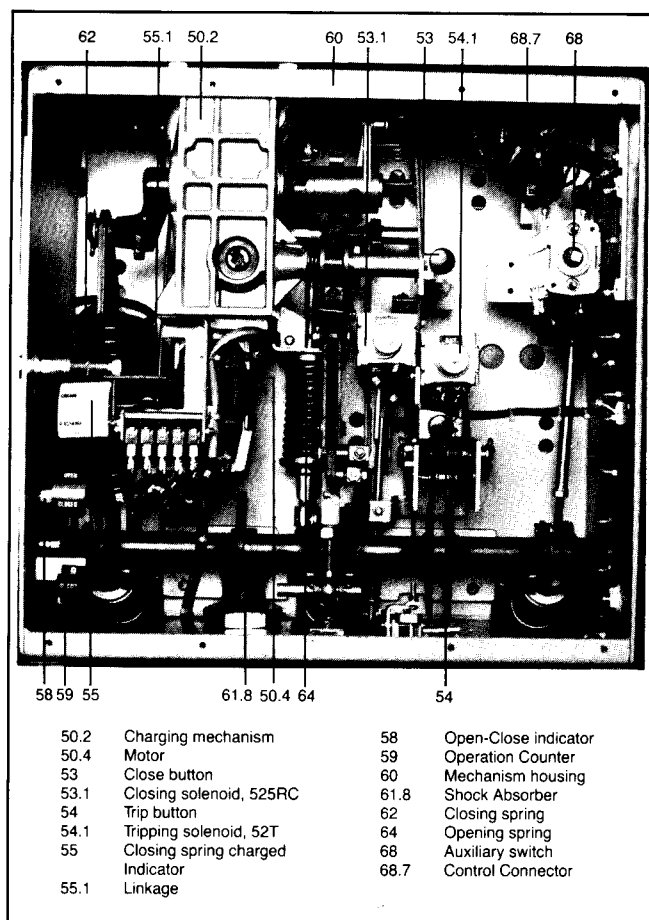

Figure 8. Operating Mechanism Closed Position—Closing Spring Discharged
The close-open indicator (58) closing spring charge indicator 55, and the operation counter (59) are fitted on the front of the mechanism housing. (Fig. 8)
The control connector (68.7) for the control and signalling cables is a 64 contact plug or 24 point terminal block applied internally to the drawout unit. (Fig. 8)
(Figures 8 thru 12)
The essential parts of the operating mechanism are shown in Fig. 8. Its actuation is described under "Flow Chart of Operating Mechanism" on page 20.
The details of the closing spring charging mechanism are shown in Figures 8, 9, 10, & 12. The charging shaft, (62.1), is supported in the charging mechanism, (50.2), but is not coupled mechanically with the charging mechanism. Fitted to it are the crank, (62.2), at one end and the cam, (62.3), together with lever, (62.5), at the other.
Closing (See Fig. 8, 9, 10, and 12)